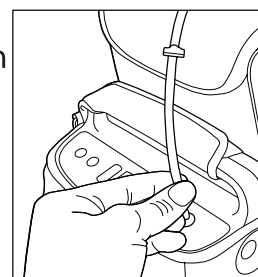

Figure 3
7. Attach the tubing from the humidifier bottle assembly to the oxygen outlet connector on the portable oxygen concentrator (see Figure 3).